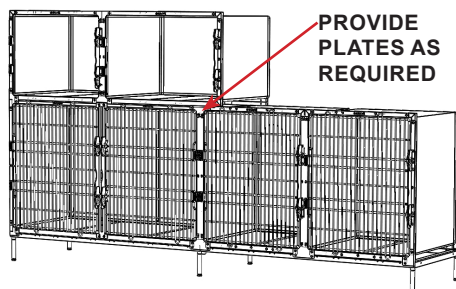

FIGURE 2.43 - Trim Plate #22
**Not all cage joints align with cages above/below. For these procedures the bottom row cages do not align with the cages above, add trim plates as required. See FIGURE 2.43**
**STEP 20:** Remove the top trim plate screws (4 each) from both bottom cages that do not align with the cages above. See FIGURE 2.43